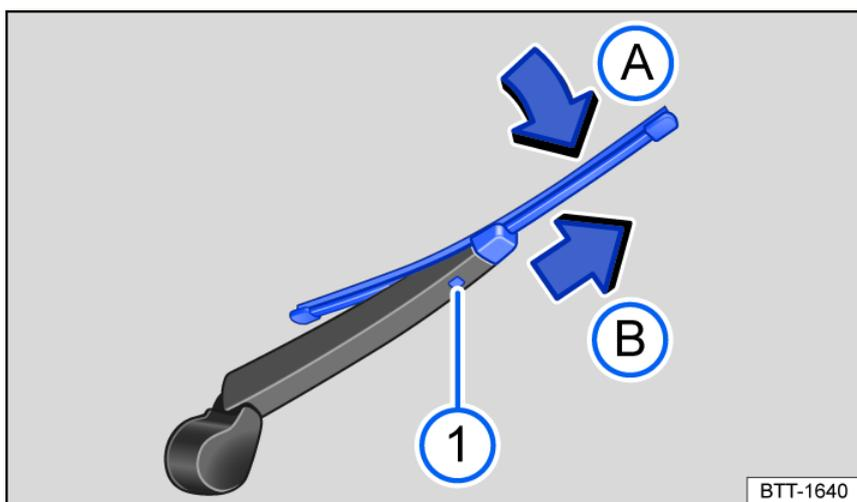

Fig. 169 Replacing the rear window wiper blade.
- Press and hold the release button *fig. 169* ①.
- Tilt the wiper blade toward the wiper arm *fig. 169* (arrow ①) while removing it in the direction of the arrow ②. You may need to use more force to do this.
- Insert a new wiper blade of the **same length and type** on the wiper arm in the opposite direction of the arrow until it engages *fig. 169* (arrow ②). The wiper
blade must be folded out when doing this *fig. 169* (arrow **A**).